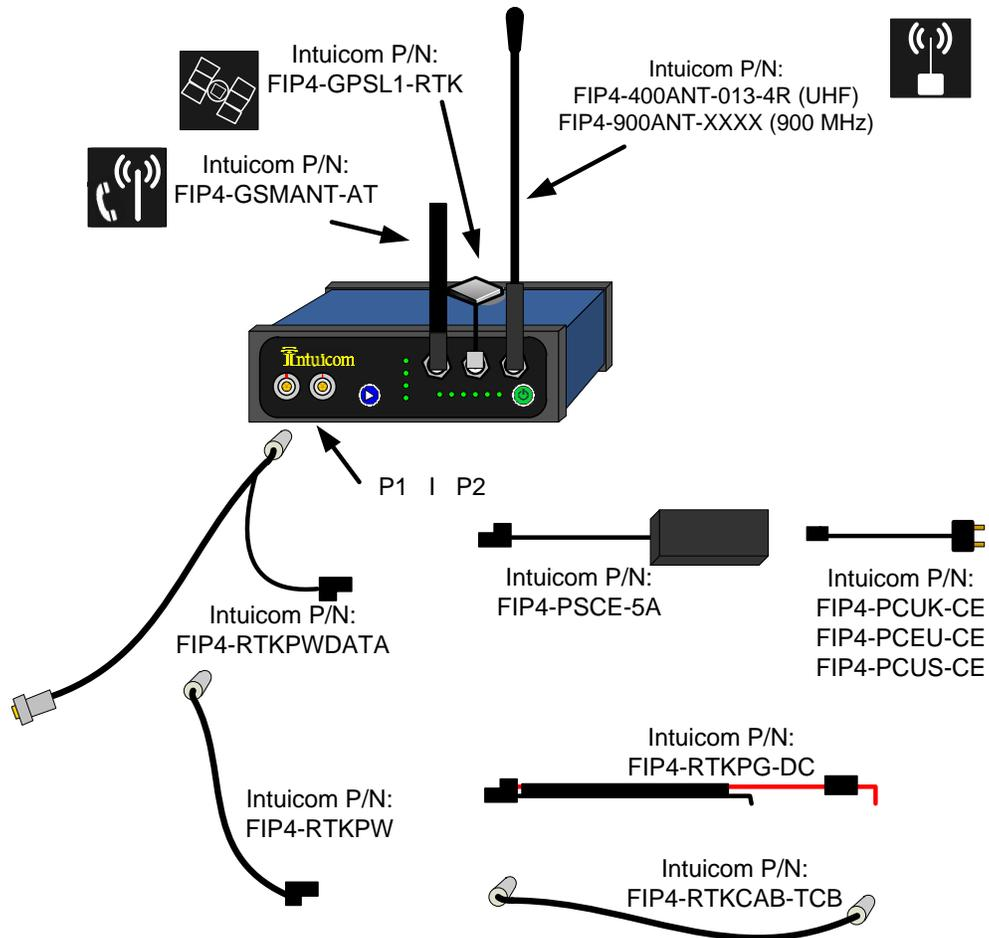

Figure 18: Antenna and cabling options for the RTK Bridge-C
6. **Connect Power** – The RTK Bridge can be powered using either the P1 or the P2 port. There are a number of cabling options for powering the unit. Figure 18 pictures the different options. Power can be applied using the standard power/data cable (FIP4-RTKPWDATA) and attaching either the AC-DC converter, or the DC power pigtail cable (FIP4-RTKPG-DC). If just power alone is required (no data), then the Lemo to SAE power cable (FIP4-RTKPW) can be used instead of the power/data cable. Intuicom manufactures cables for directly connecting to different GPS manufacturers accessory batteries – See Accessories for cable part numbers.